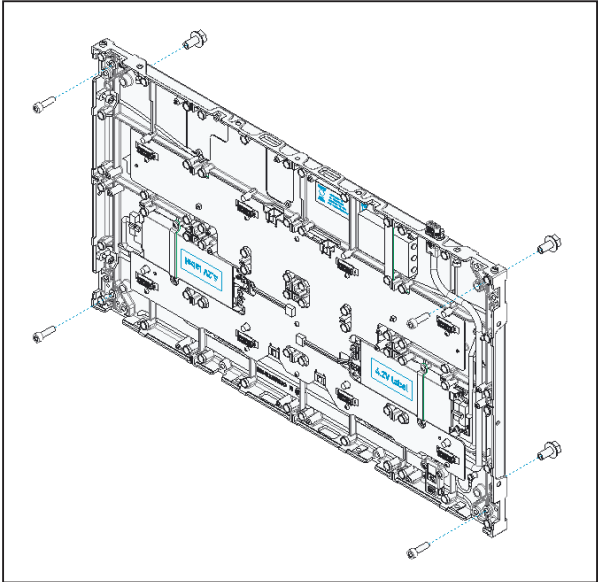
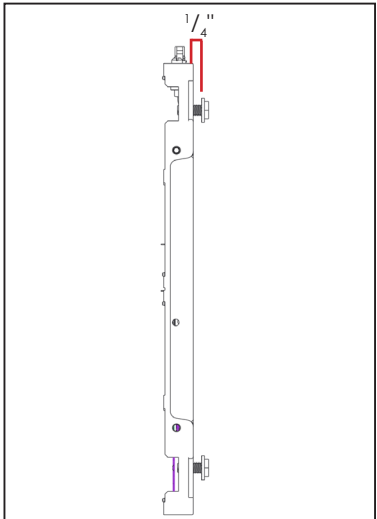

Figure 17: Install Hardware in First Panel
Figure 18: Leave $\frac{1}{4}$ " between Bolt Flange & Panel Rear
2. Install four M8 bolts (HC-5402405) through the rear of the panel so the threads are engaged but not tightened all the way. Leave $\sim\frac{1}{4}$ " between the bolt flange and the rear of the panel. Refer to **Figure 17** and **Figure 18**.